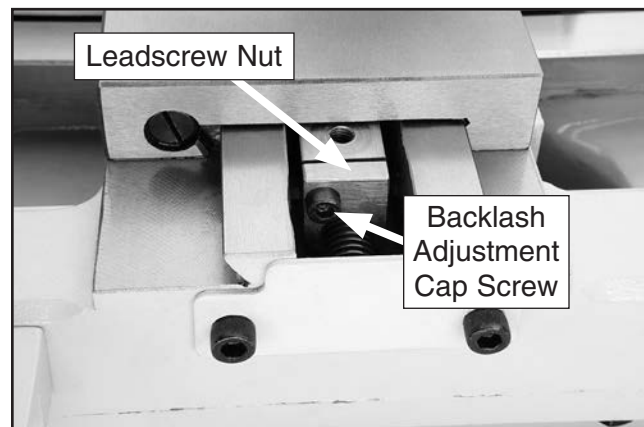

Figure 94. Leadscrew nut.
3. Rotate the cross slide handle clockwise to feed the leadscrew nut out from under the cross slide, as shown in **Figure 94**.
4. Tighten the backlash adjustment cap screw shown in **Figure 94** in small increments.